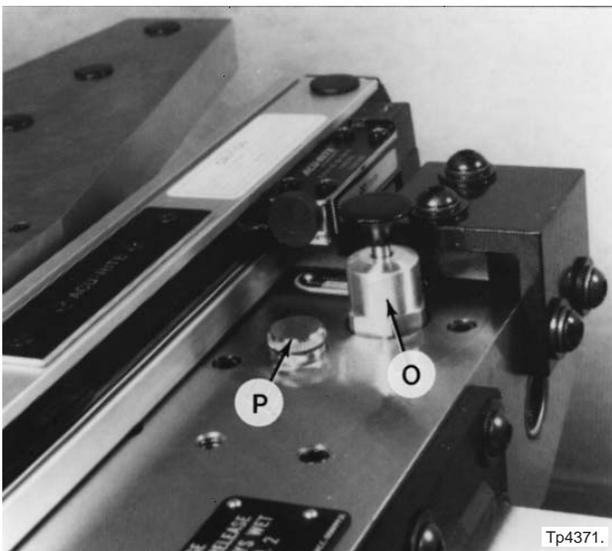
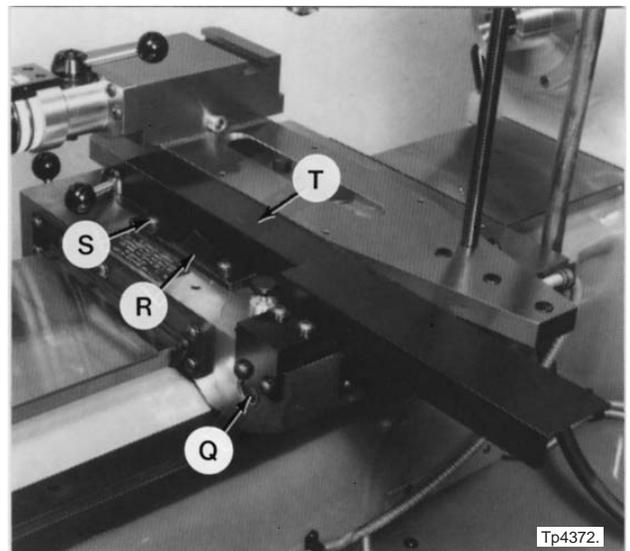

Figure 1.45 - Carriage Lubricator
Figure 1.46 - Chip Cover and Clamp
Lubricating oil for the carriage is channeled from lubricator “O”, Figure 1.45, to an oil junction block at the rear of the carriage. From the junction box, the oil is fed through four tubes to channels in the top and bottom of the carriage. Two of these channels can be seen when the cross slide is removed. On the bottom of the carriage is a large “X” shaped channel for lubricating the bed ways.
5. Remove two screws “S”, Figure 1.46, washers, lock washers, and clamp “R”.
29. Refill carriage lubricator "O", Figure 1.45, with Mobil® Vactra® oil No. 2.
40. Replace cover "T", Figure 1.46 .
To operate the lubricator, lift the plunger on lubricator "O", Figure 1.45, hold the plunger up briefly, and release. **DO NOT PUSH THE PLUNGER DOWN.** Allow the plunger to return to the down position on it's own.
To fill the oil reservoir, open reservoir cap "P", Figure 1.45, and fill with Mobil® Vactra® oil No. 2. Maintain the oil level in sight gauge "Q", Figure 1.46 .